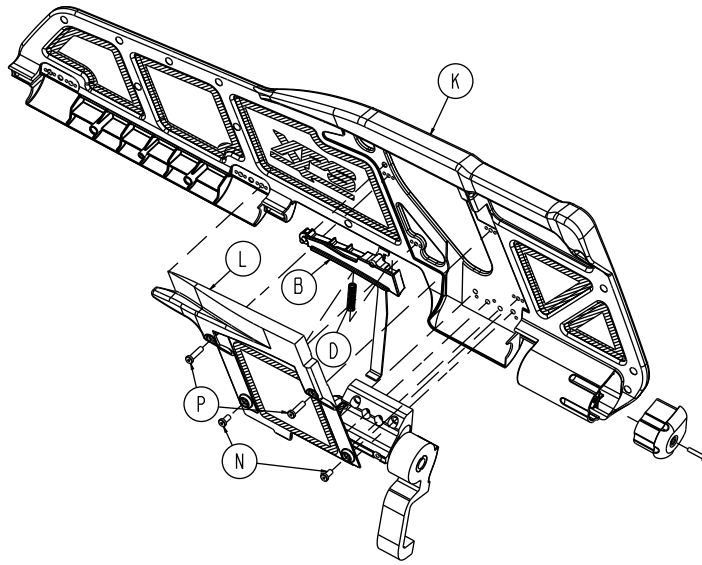

Figure 11 – Release/spring handle assembly components (XPS)
5. Using a 3/32" hex wrench, remove the four socket head cap screws (N and P) that secure the release cover (L) to the overmold assembly (K) (Figure 11). Remove and save the release cover. Save the screws.
6. Using a small slotted screwdriver, pry the handle spring (D) up. Remove and save the spring.
7. Grasp the handle assembly (B) and lift the handle spring side to remove from the cover. Discard the handle assembly.
6. Using a small slotted screwdriver, pry the handle spring (D) up. Remove and discard the spring.